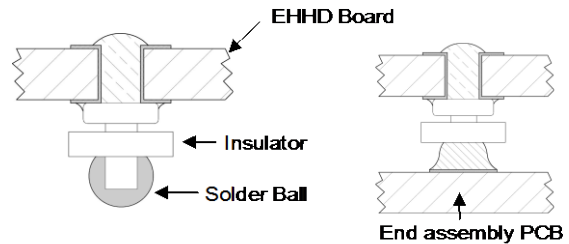

Figure 22. Column Pin Connector Before and After Reflow Soldering.
technology called “Column Pin” (CP) connectors. Figure 22 shows the new CP connector before and after reflow soldering onto the end-board assembly. The CP is constructed from a solid copper pin with an integral solder ball attached, which is composed of tin/lead (Sn/Pb) solder for non-Z codes, or Sn/Ag3/Cu (SAC) solder for -Z codes.